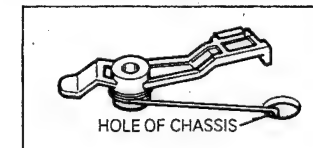

Fig. B-21-2 CAP Brake Assembly
- 2) Hook the end of Capstan Brake Spring to the projection of Capstan Brake and then remove the Capstan Brake Assembly by lifting it up(Fig. B-21-2).